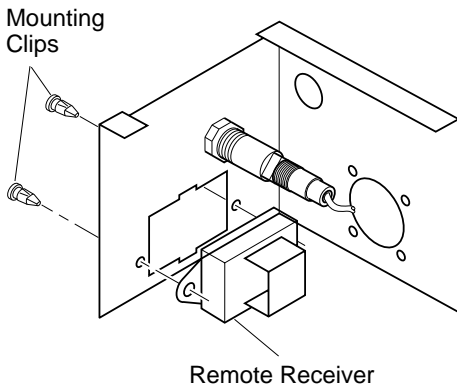

Figure 32 - Installing Remote Receiver
5. Push clips firmly into place (see Figure 32).